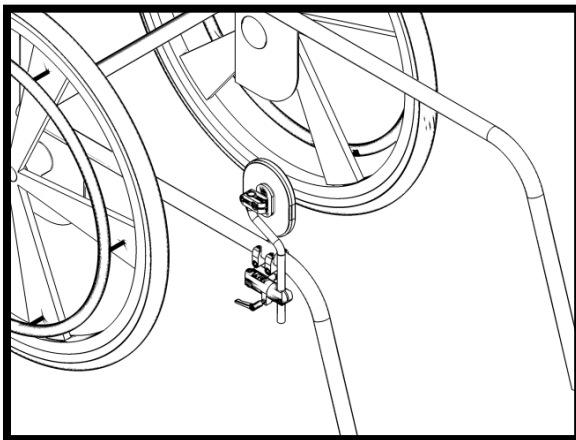
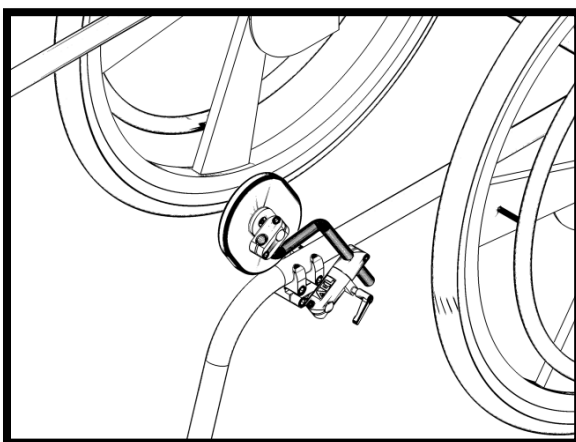

Figure 1.5
Figure 1.6
***Note: The POSAInc 360 Swing-Away Knee Adductor is offered specifically as a "right-" and "left-" side device, the installation technician can option to mount a right side device onto the left side of the wheelchair and a left side assembly on the right. See Figure 1.6 for an illustration displaying this mounting option. The installation technician must ensure the release knob is facing away from the chair. Throughout the rest of this instruction manual the illustrations will depict a right side device mounted on the right side of a wheelchair.
The figures below show a POSAlinc 360 Swing-Away Knee Adductor correctly tube mounted to a wheelchair. Figure 1.5 shows a right side assembly mounted to the right side of a chair, while Figure 1.6 shows the option of mounting a right side assembly to the left side of the chair.